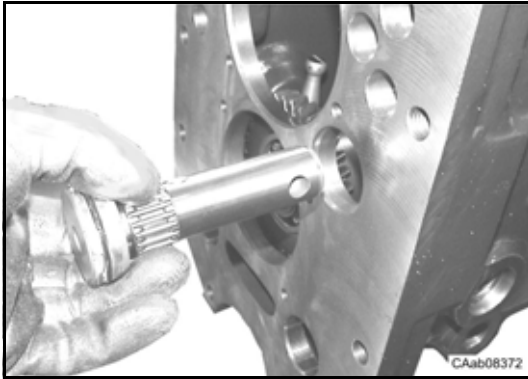

Figure 1
1. Lubricate new O-Ring (1) and assemble on the shaft (2).
2. Assemble needle bearing (3) on the shaft (2).
3. Position gear (4) and bush (6) in the inside of the gear box.
4. Assemble shaft (2) to the gear box.
- Refer to: figure 1.
5. Assemble washer (8) and screw (7). Tighten screw to the requested torque.